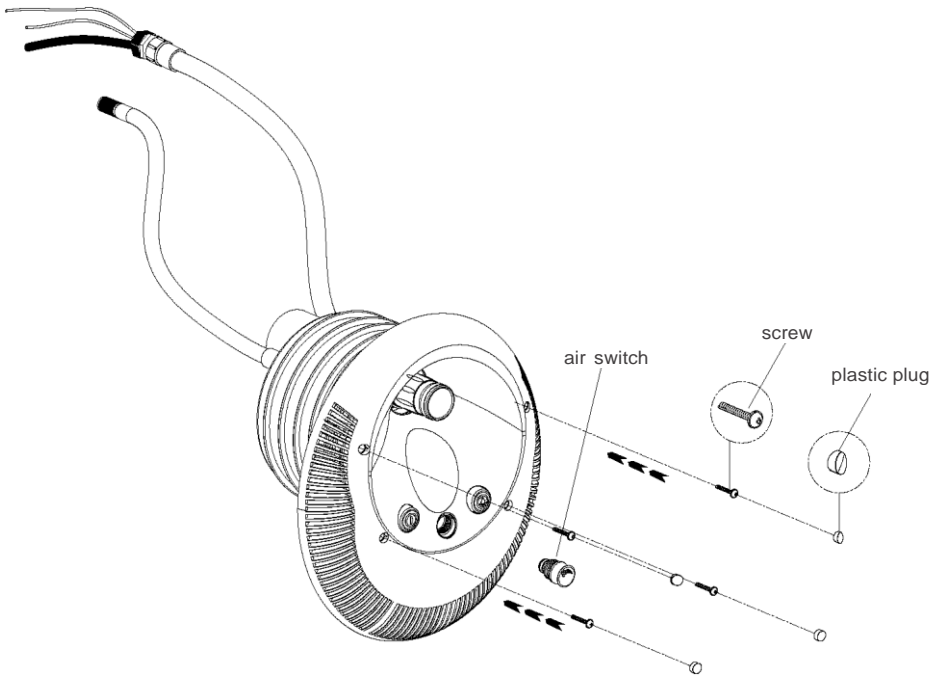

Figure 12
- 4) Install the outer shell onto the support frame, fixed with 4 M5 screws, and then cork the screw hole using plastic cork. (Figure12)